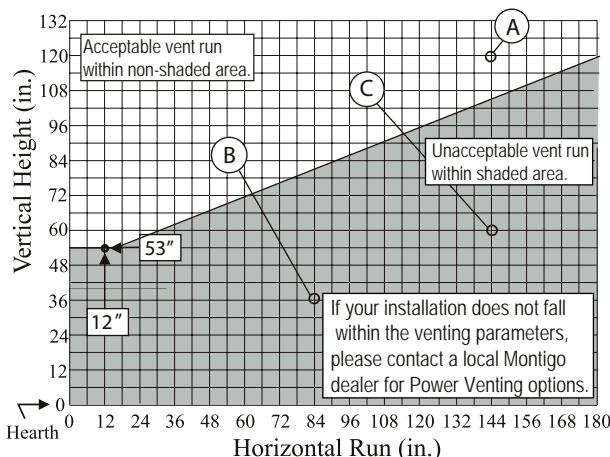

Figure 12. PL42DF* LP Top Vent Venting Graph for wall mounted terminations.
- Once the proposed venting layout has been determined refer to Figure 12, 12a, or 14 to ensure the layout is acceptable.
- Venting runs must fall within the limits set by the venting graph, see Figure 12 or 13
Measure the vertical height from the fireplace hearth to the centre of the termination and the horizontal run from the fireplace flue collar to the wall flange of the termination. Plot on the Venting Graph Figure 12 or 13 with an 'X'.
Figure 13. Top Vented, wall mounted installation with one 90° bend. The vent run must comply with Venting Graph for Top vent, wall mounted terminations, Figure 12 or 12a.
Figure 13a. Top Vented, wall mounted Multi-elbow installation. The vent run must comply with Venting Graph for Top vent, wall mounted terminations, Figure 12 or 12a.